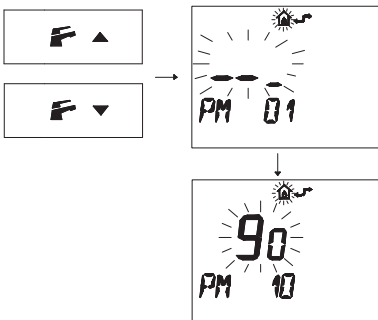

Fig. 7.38
- Press buttons **F** and **▲** or **F** and **▼** to display the "PM10" program for selecting the ignition frequency (Fig. 7.38).
In Fig. 7.38 a SET programmed at **90** is displayed corresponding to a re-ignition time of about 3 minutes.